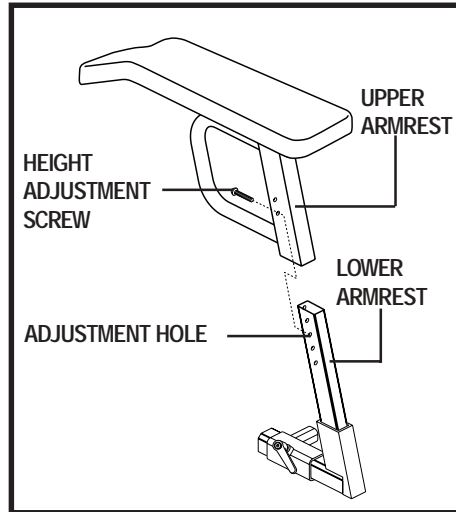

Figure 7. Armrest Height Adjustment
1. Remove the height adjustment screw from the armrest. See figure 7.